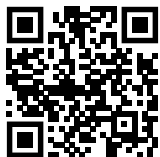

Fig. 94
- ▶ Otevřete Liebherr SmartMonitoring Dashboard. (viz Fig. 94)